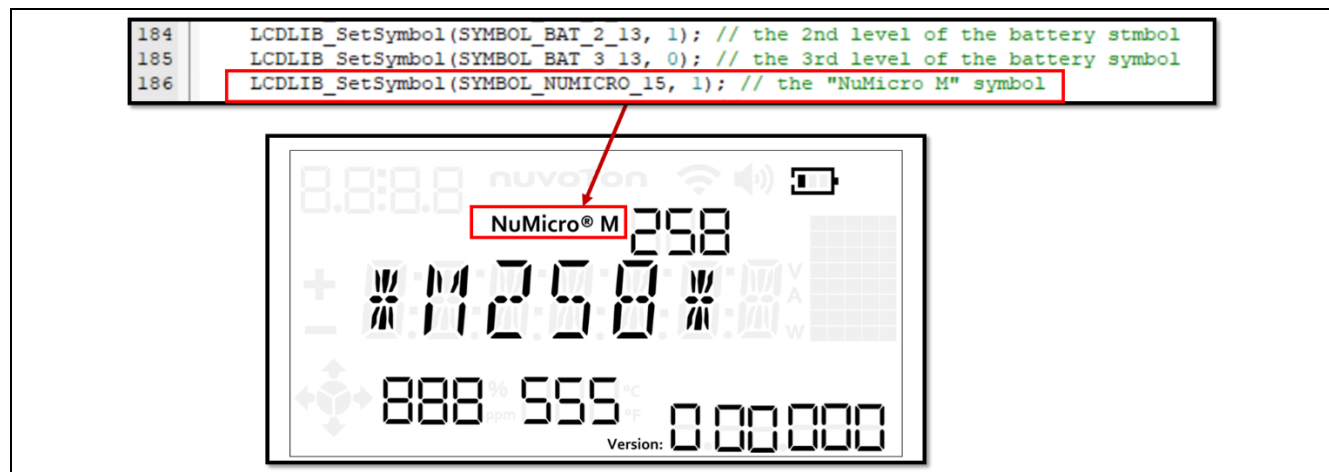

Figure 1-13 Use API to Bring up the Specific Icon
- Use Nuvoton's API to bring up the specific icon. The effect is shown as Figure 1-13.